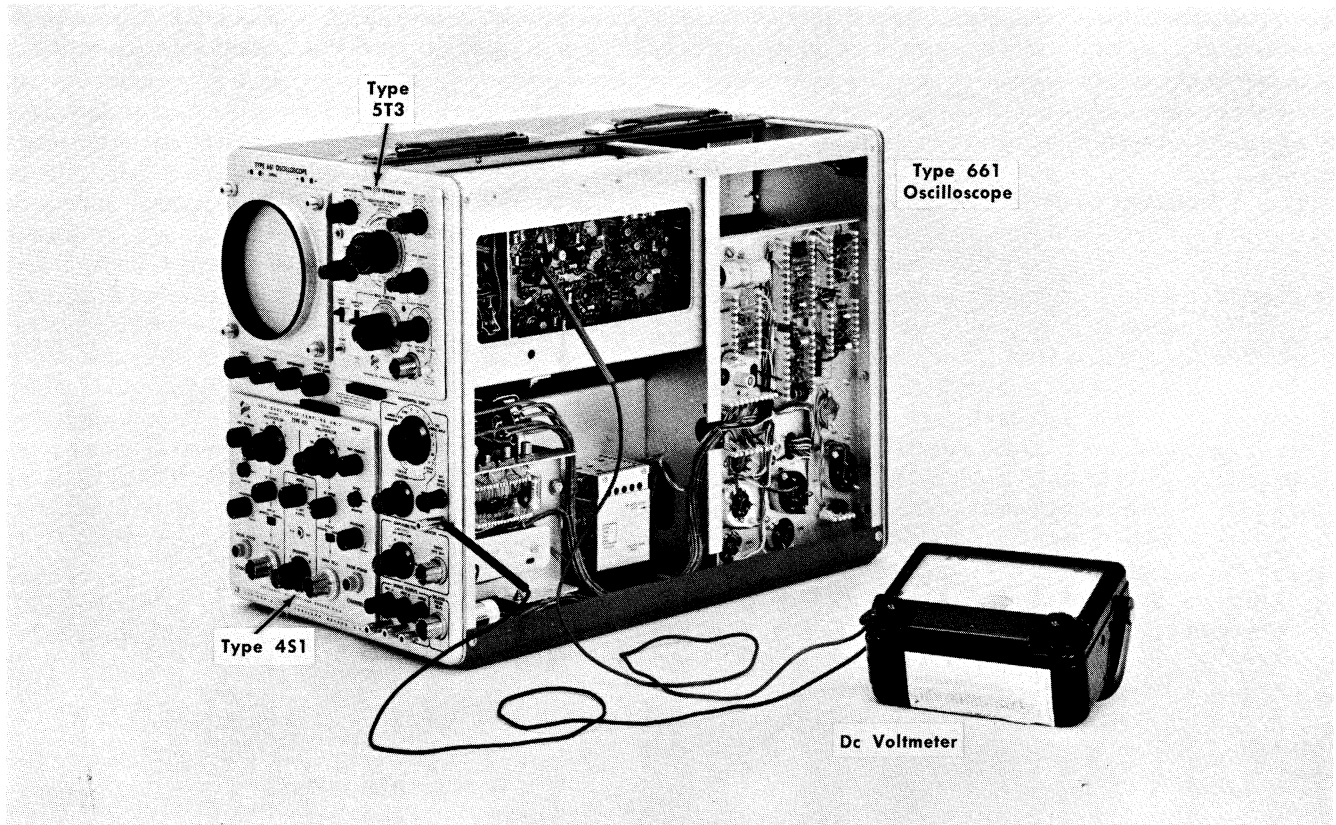

Fig. 5-3. Test equipment setup for steps 1 through 6.
- a. Test equipment setup is shown in Fig. 5-3.